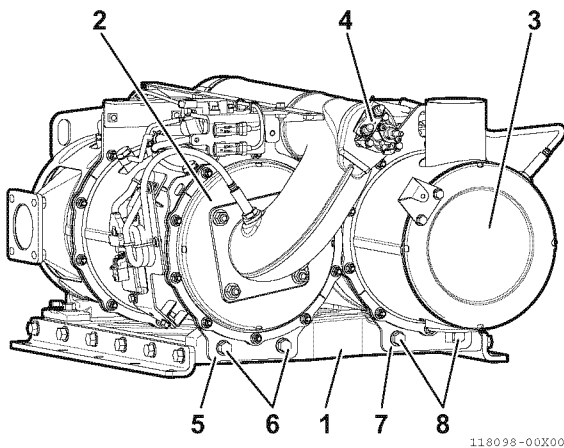

Fig.25-15 DM side
2. Remove the DPF-SCR bracket (1, Fig.25-15) that retains the ATD unit, and bolts and nuts that mount the both ends of the DPF (2, Fig.25-15) and SCR (3, Fig.25-15). The removal procedures are described below sections, 3. and 4.
3. On the DM side (4, Fig.25-15), remove the fixing bolts (6, Fig.25-15) of the SF stiffener plate (5, Fig.25-15) of the DPF and remove the fixing bolts (8, Fig.25-15) of the flange (7, Fig.25-15) of the exhaust gas outlet pipe of the SCR.